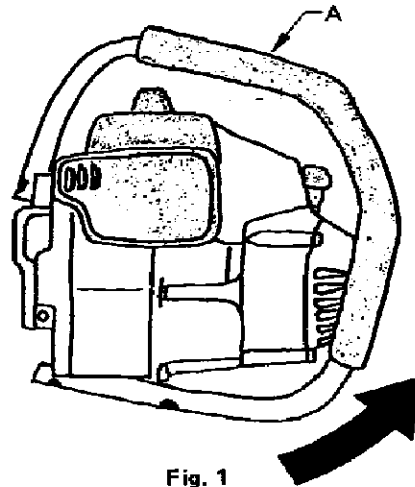

Fig. 1
1. Set **FRONT HANDLE (A)** to bracket at upper side of guide bar mount, and rotate **FRONT HANDLE (A)** to fit into front handle mount at bottom of saw. See Fig. 1.